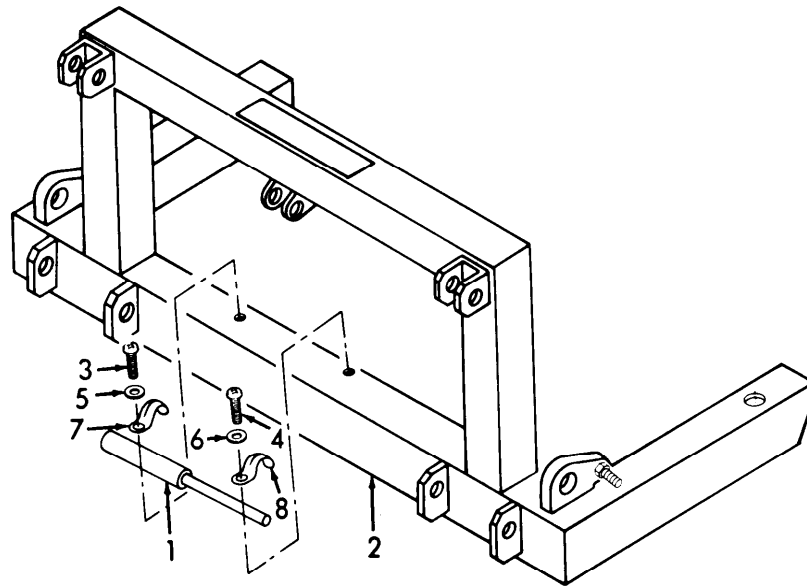

Figure 3-4. Jack Handle, Removal.
- (5) Remove jack handle (1, Figure 3-4) and attaching hardware from suspension frame (2).
- (a) Remove screws (3) and (4), washer (5) and (6), and clamps (7) and (8).